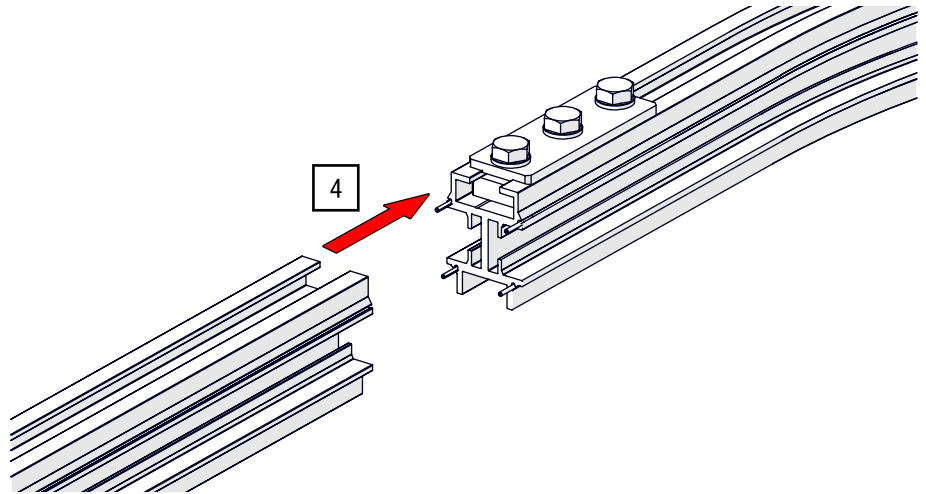

Fig. 46: Track splice – Join track sections together
4. Place the second track section onto the connecting pins and position it flush with the first track section (see Fig. 46).